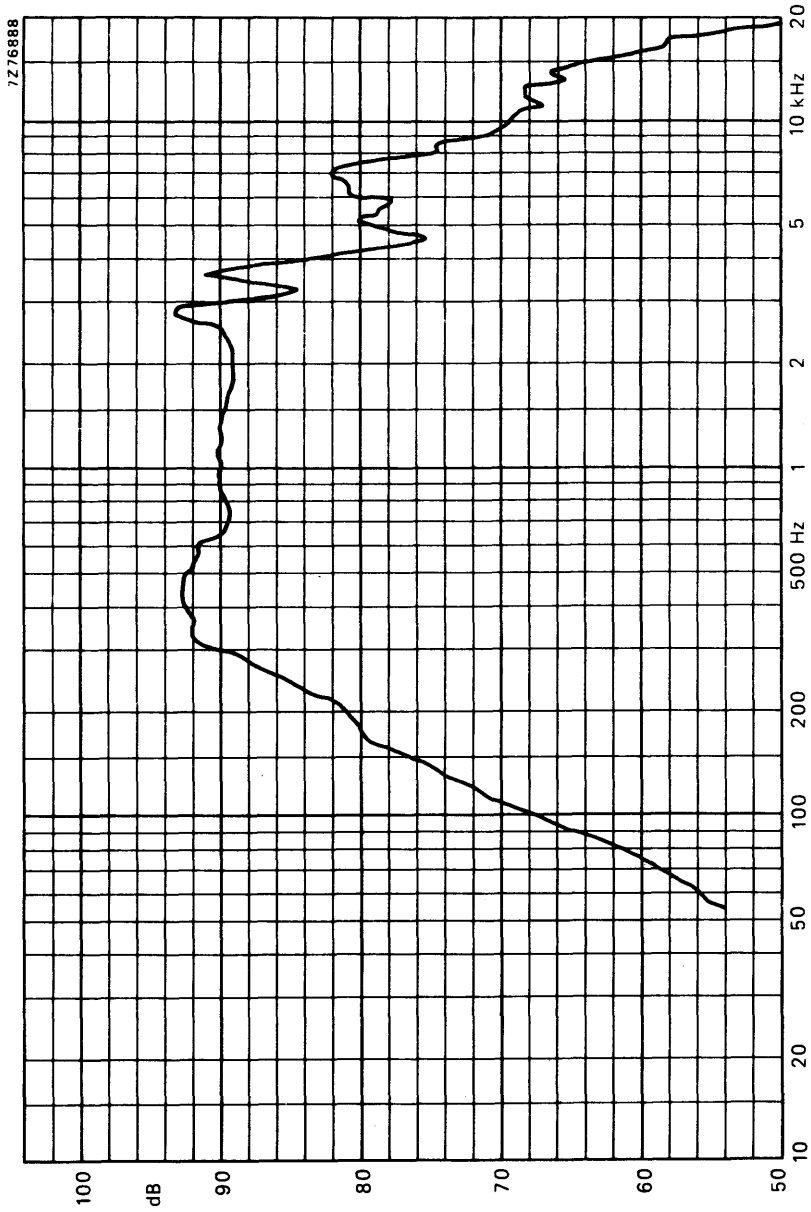

Fig.2.
**FREQUENCY RESPONSE CURVE** (see Fig. 2)